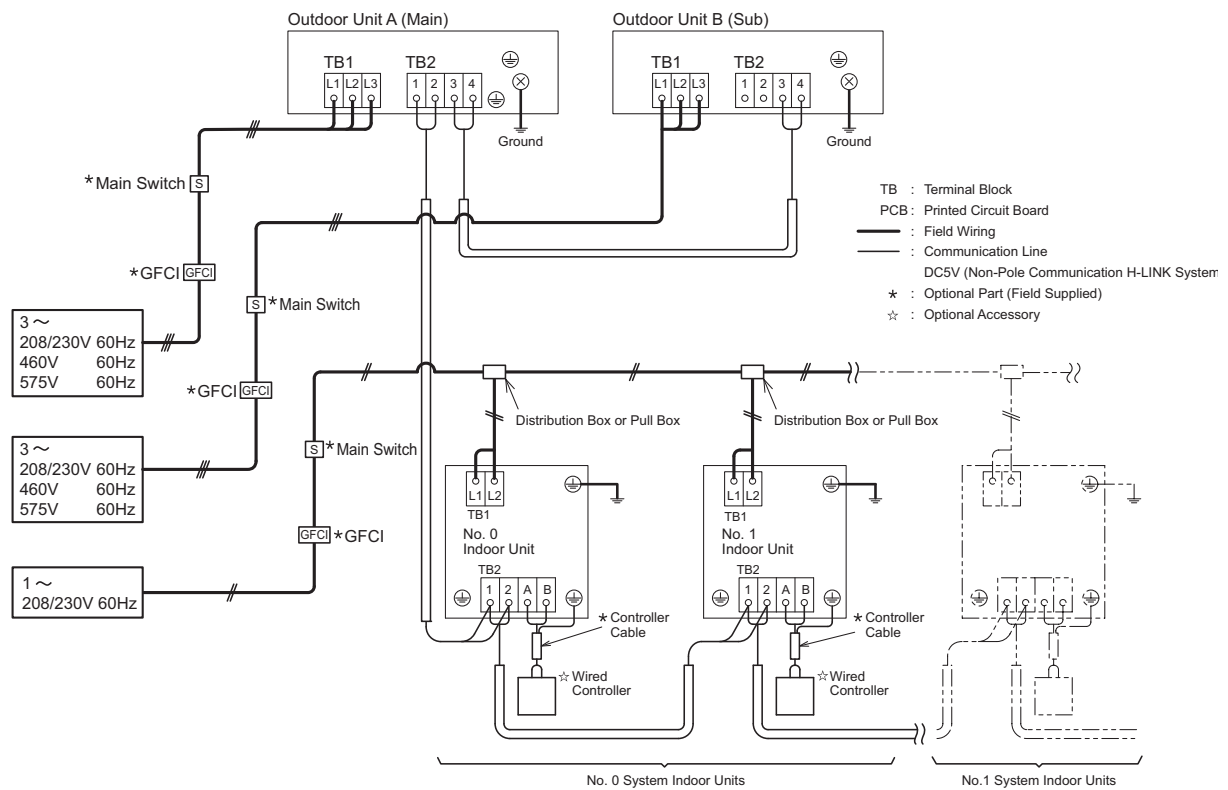

Figure 7.1 Layout for Electrical Wiring Connection (Heat Pump System)
- (3) Connect the communication cable between indoor units and outdoor units, as shown in Figure 7.1.
- (4) Connect the communication cables in the same refrigerant system unit. (If the refrigerant piping of indoor unit is connected to the outdoor unit, also connect the communication cables to the same indoor unit.) Connecting the refrigerant piping and communication cables to the different refrigerant systems may lead to malfunction.
- (5) Use communication cable that is a minimum of AWG18 (0.82mm²), 2-Conductor, Stranded Copper. Shielded cable must be considered for applications and routing in areas of high EMI and other sources of potentially excessive electrical noise to reduce the potential for communication errors. When shielded cable is applied, proper bonding and termination of the cable shield is required as per Johnson Controls guidelines. Plenum and riser ratings for communication cables must be considered per application and local code requirements. (Do not use Tri-Core or anything beyond.)
- (6) Use the same kind of cables in the same H-LINK system.
- (7) Maintain at least 5 inches (127mm) between the communication cables and the power supply wiring, and also min. 5 ft (1.5m) between the communication cables and power supply wiring for other electrical device. If these cables are not secured, sleeve the power supply wiring into the metallic conduit tubing to separate them from the other cables. Make sure power supply wiring is well-grounded.
- (8) Connect the following communication cables to the terminals 1 and 2 on terminal block (TB2) in the outdoor unit A (main unit).
- (9) Do not connect the power supply wiring to the terminal block for communication cable (TB2). All the printed circuit boards in the same refrigerant system will be damaged.
- (10) Connect the ground wiring to the outdoor/indoor units. The ground wiring work under the condition of 100Ω (maximum) ground resistance must be performed by a authorized personnel.
- (11) Connect the communication cables between outdoor units in the same refrigerant system to the terminals 3 and 4 on TB2.